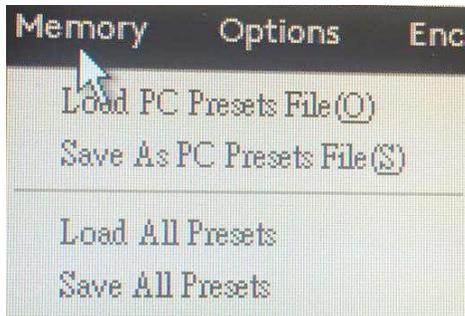

Figure 3.4.1
As shown in Figure 3.4.1 DA-12DSP software of the scene in three major types of actions: the machine stored scene data, computer data stored scene and the whole scene data manipulation.
**Step1:** Click on the main interface to the top menu " Memory " button will pop up all the scenes action item (see Figure 3.4.1).
**step1:** Click on the main interface to the top menu " Memory " button will pop up all the scenes action item (see Figure 3.4.1).
**step 1:** Click on the main interface to the top menu " Memory " button will pop up all the scenes action item (see Figure 3.4.1).
**step1:** Click on the main interface to the top menu "Memory" button will pop up all the scenes action item (see Figure 3.4.1)